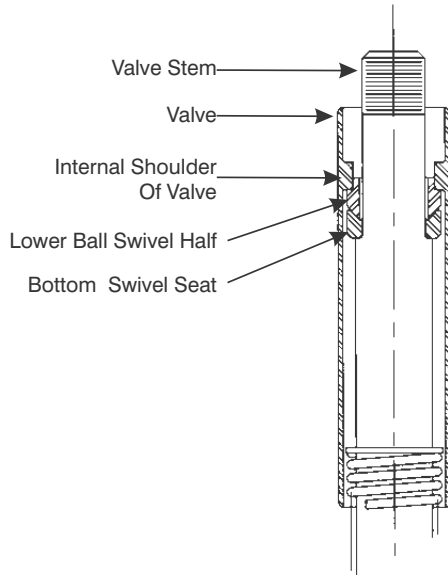

Figure 9-19. Valve Internal Shoulder Seats on Ball Swivel Lower Half.
8. Refer to Figure 9-19. Position the Valve (7) so the end without an internal shoulder slides onto the Valve Stem (11) first.
9. Slide Valve (7) onto the Valve Stem (11) until the internal shoulder touches the installed lower half of the Ball Swivel (6), as shown in Figure 9-19.